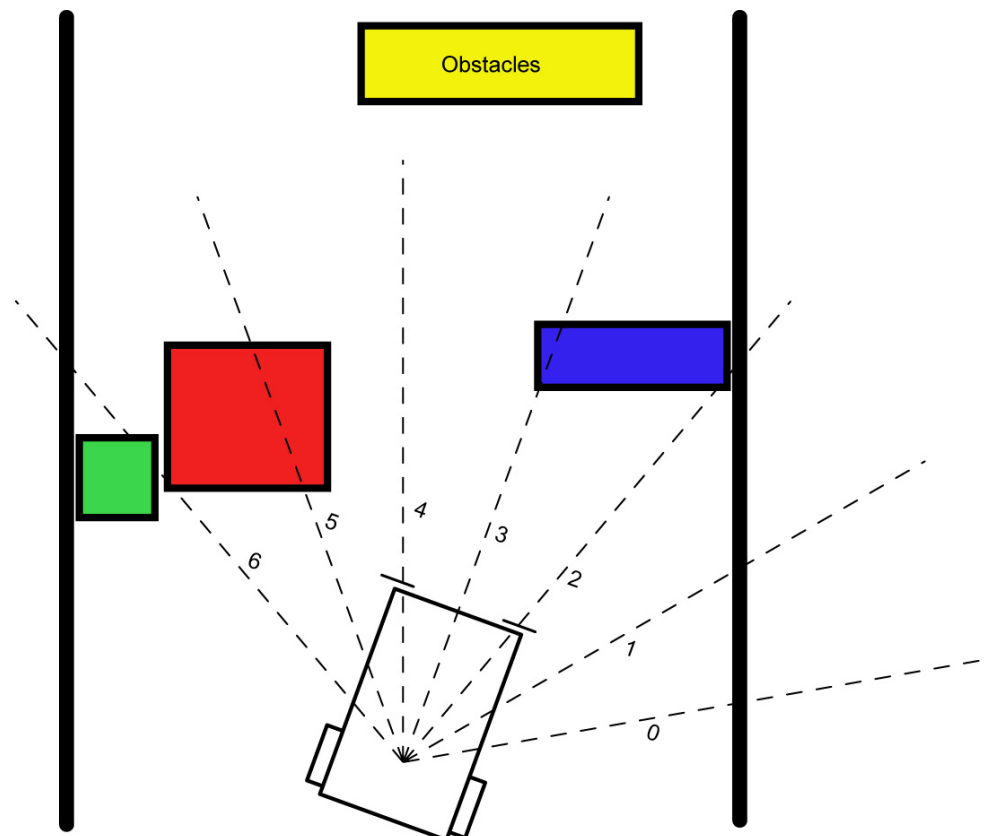

Figure 1
- **Obstacle Avoidance:** This series of four sonar car lessons walk you through the software development for the sonar car. In general, the car is designed to make its way through an obstacle without hitting an obstacle or wall. The sonar car takes 7 ultra-sonic distance readings, chooses the longest distance reading of the seven, and then rotates the car in the direction of the longest distance reading before traveling forward. For example in Figure 1 below, the sonar car should determine that direction 4 is the longest distance reading at its current position and it should rotate in that direction and then move forward.